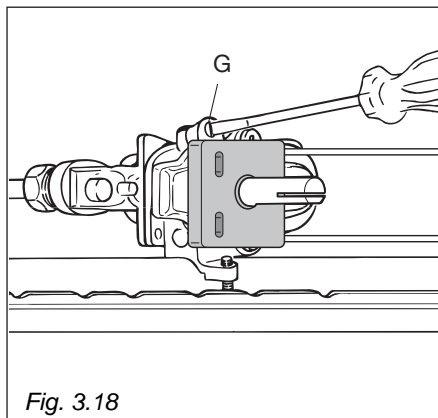

Fig. 3.18
- remove the knob and by a thin screwdriver (3 mm section - 100 mm long) unscrew of about a half turn the screw by-pass **G**, passing through the front panel hole (fig. 3.18)